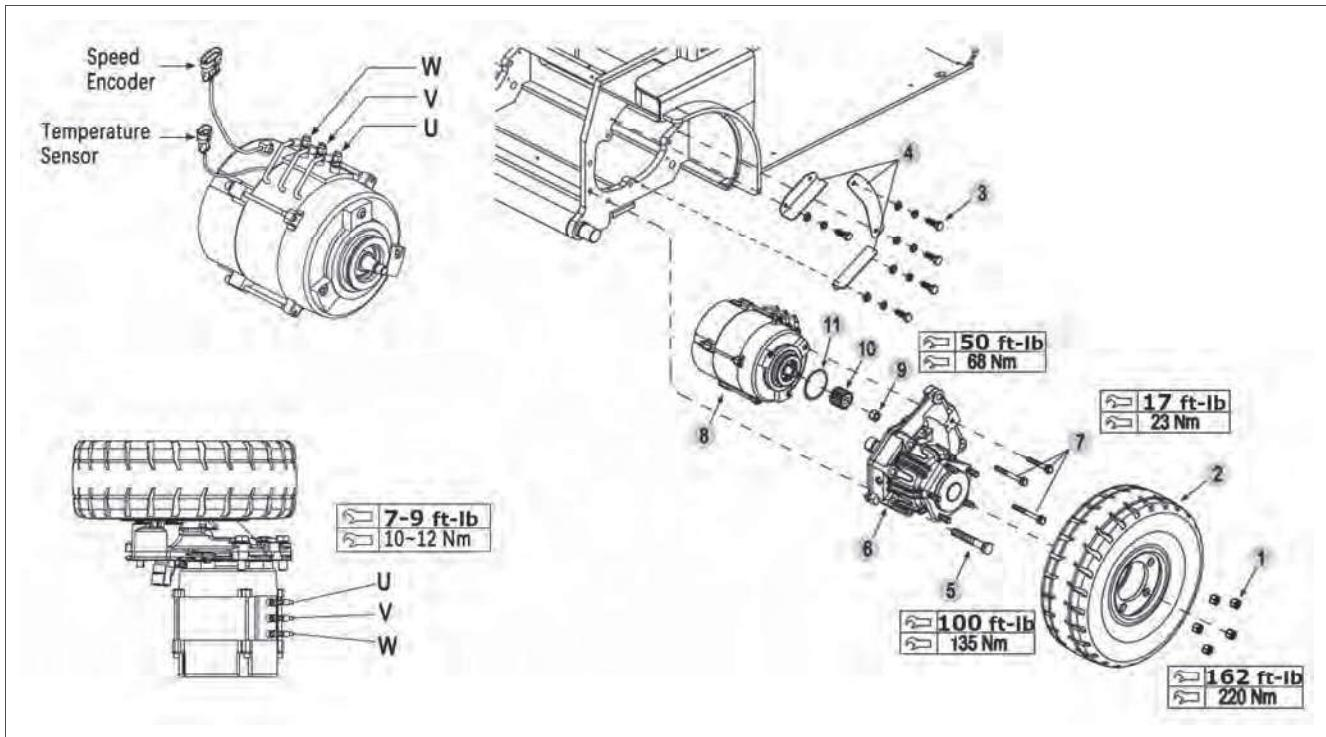

Figure 7-3 Drive Motor
2. Remove the U, V and W cables (Figure 7-3) on the drive motor.
6. Remove the 6 bolts (3, Figure 7-3) and remove the 3 plates (4).
7. Remove the 7 bolts (5) and remove the gearbox (6) and the drive motor (8) from the chassis.
8. Remove the 3 bolts (7) and remove the drive motor (8) from the gearbox (6).
9. Remove the nut (9) and remove the motor gear (10 and O-ring (11) from the drive motor (8)
For torque requirements see (Figure 7-3).